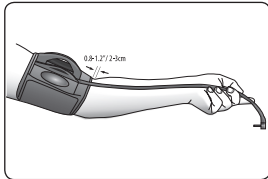

Fig. 3
4. The bottom edge of the cuff should be positioned approximately one inch above the elbow joint, Fig 3.